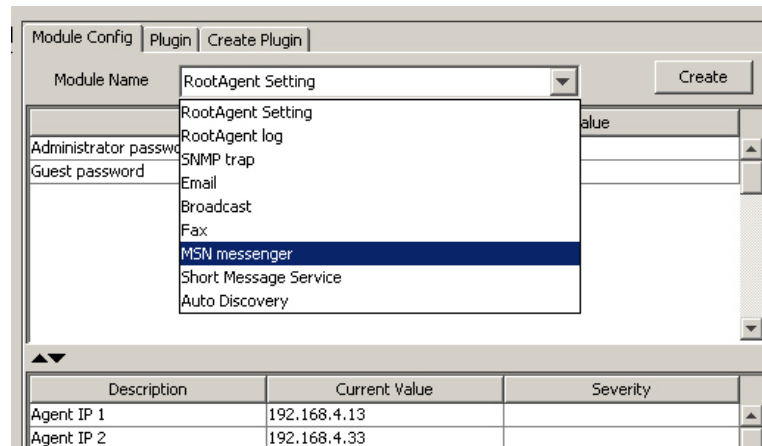

Figure 4-11: Module Name Pull-down List
Step 8. The **Module Configuration** window will display on the right of the **Configuration Client** User Interface. You may now start configuring event receivers under each notification method window. Click on the **Module Name** pull-down list to display all the configuration options. (See *Figure 4-11*)